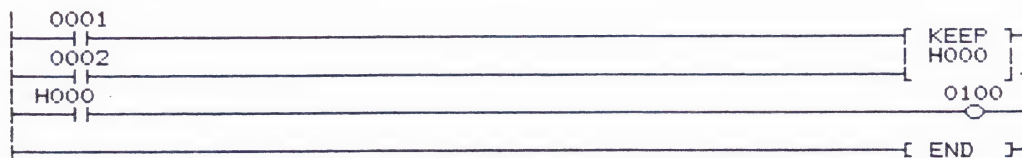

Figure 4.22 Keep Relay (FUN 11)
By using a Holding Relay (HR) location, the Latching circuit can become memory retentive. Should a power failure occur, uninterrupted machine control is assured. Figure 4.22 shows a timing chart and an example of a program containing a Keep Relay in an HR location.